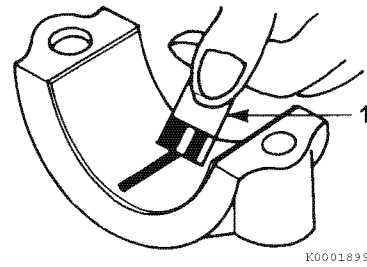

Figure 6-60
9. Compare the width of the flattened PLASTIGAGE (1, **Figure 6-60**) to the graduation marks on the package. The mark that most closely matches the width of the flattened PLASTIGAGE will indicate the bearing oil clearance. Record the measurement. See *Crankshaft* on page 6-8 for clearance specifications.